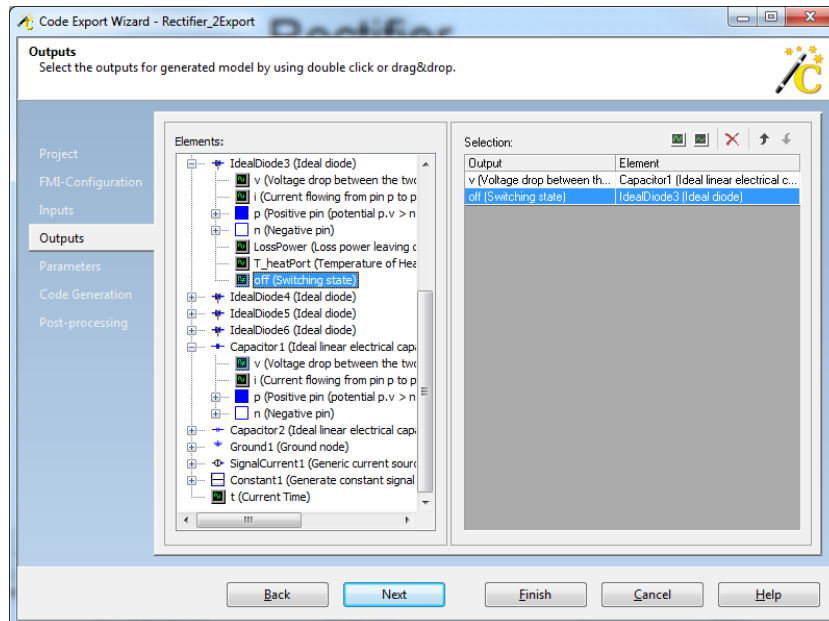

Figure 3: Outputs page of Code Export Wizard.
- The output property window looks similar to the input property window and allows you to define outputs of the exported FMU. Choose the parameter “v” of the element “Capacitor1” and “off” of “IdealDiode3” (compare to Figure 3). Click “Next”.